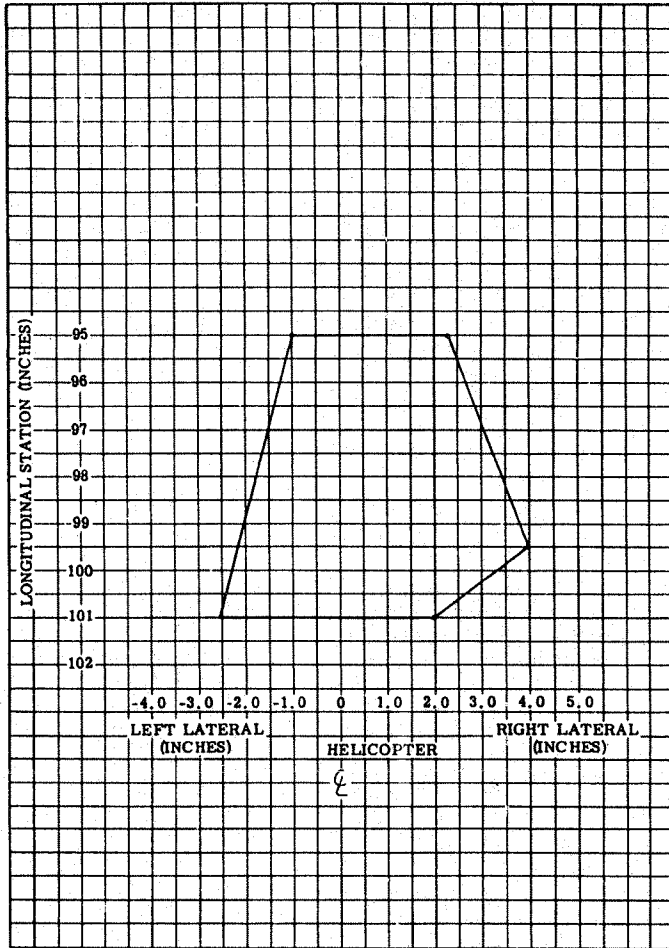

Figure 1. Litter Installation CG Limits
1. CG limits (see Figures 1 and 2)
1. Litter installation CG limits diagram (see Figure 1, this addendum).